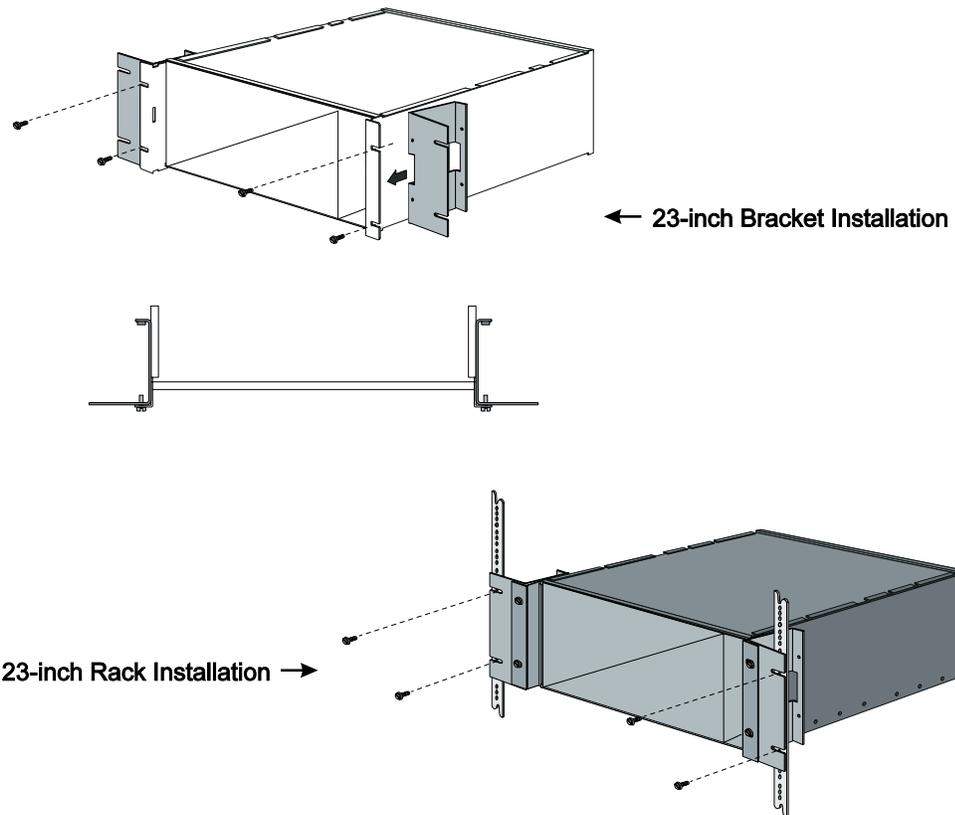

Figure 21. 23-inch Equipment Rack Installation (Top View)
- 1 Using the bolts that came with the brackets, fasten them to the chassis mounting flanges. See Figure 21.